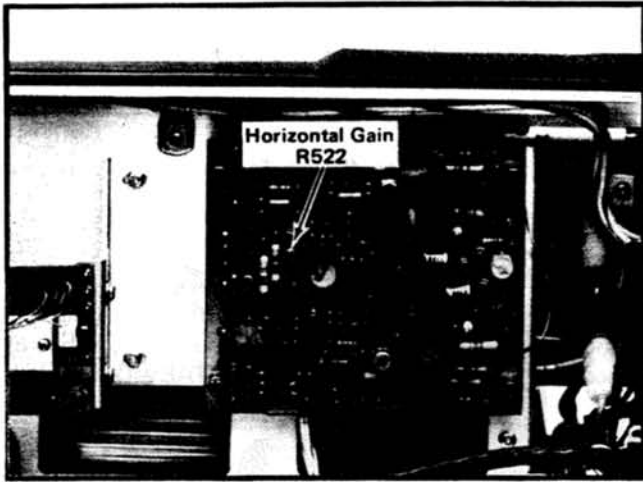

Fig. 5-15. Location of Horizontal Amplifier Gain adjust R522.
c. ADJUST—Horizontal Amplifier Gain adjustment R522 (see Fig. 5-15) for 8 divisions of deflection between the second and eighth traces.
**15. Check/Adjust Readout Character Vertical Separation and Operation** ①